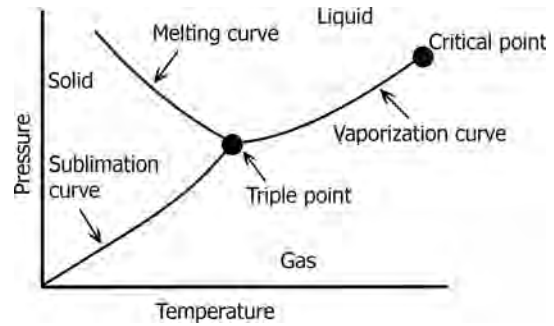

FIGURE 8.1 Illustration for triple point.
- Figure 8.1 gives the phase diagram illustrating the triple point.